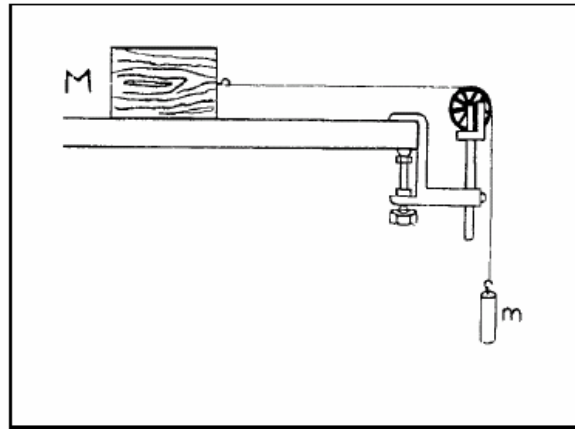
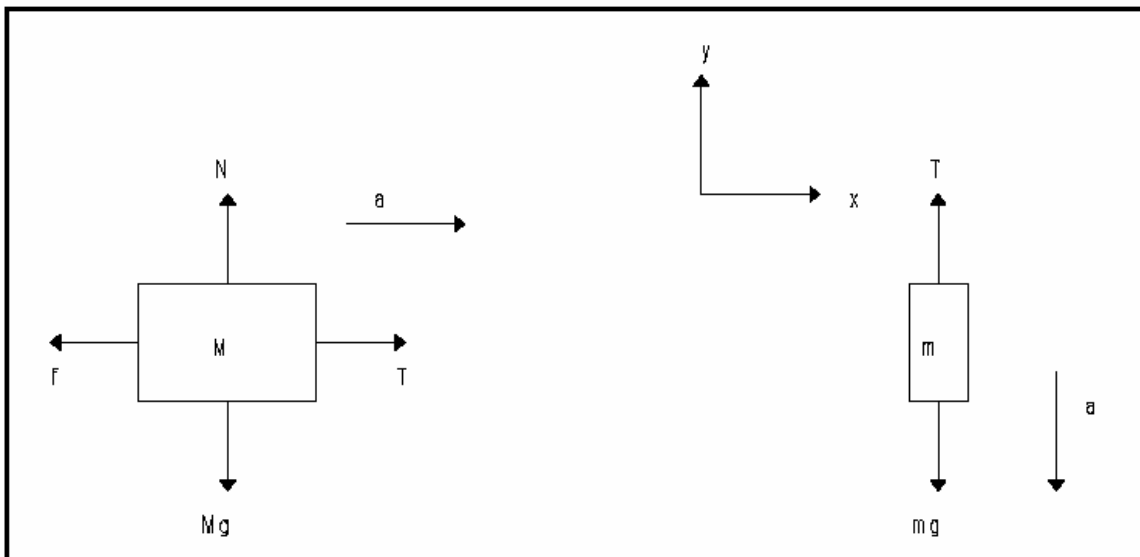

Figure 1
Figure 2. Free-body diagram for frictional force experiment.
**Physics Theory:** Consider the system shown in Figure 1. A block of mass  $M$  is placed on a level table and connected to a mass  $m$  by a light string running through a pulley. If mass  $m$  is released, it will start to fall and the wooden block will be pulled across the table. A free body diagram of this system is shown in Figure 2.
We begin our analysis of this system by writing equations to resolve forces in the  $x$  and  $y$  directions. Notice that the pulley in Figure 1 has the effect of redirecting the force labelled as  $T$  on  $M$  from the horizontal direction (along the  $+x$  axis) to the vertical direction (positive  $y$  axis) on  $m$ .
In general, the coefficient of kinetic friction  $\mu_k$  depends only upon the nature of the surfaces that are in contact with each other. From (8) we can see that  $\mu_k$  for various materials may be measured by setting up a system such as that in Figure 1, measuring  $M$  and  $m$ , and measuring  $a$  after the system is released from rest.